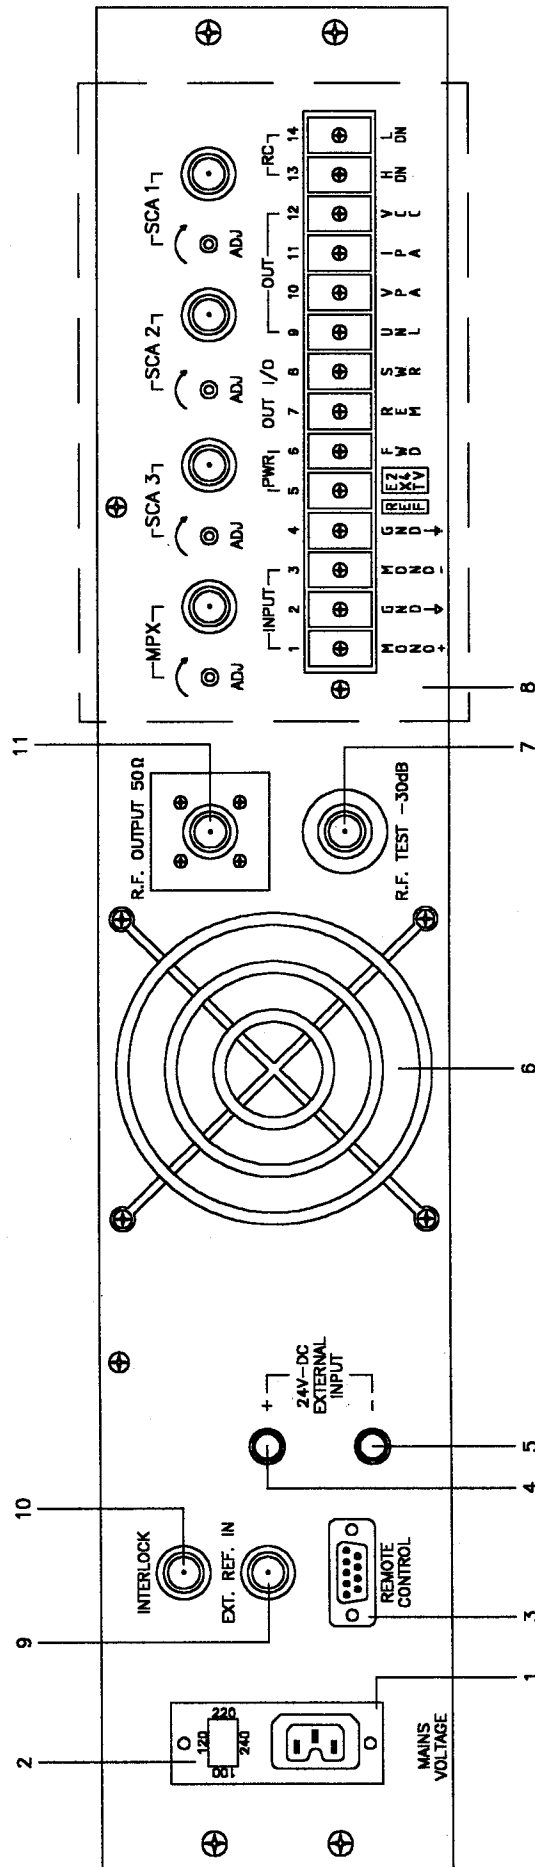

FIG. 2
REAR PANEL VIEW DESCRIPTION (Fig.2)
First of all select the correct supply voltage using the selector situated on the rear panel; use a screwdriver to raise the cover (2 Fig.2) on which are written the various voltages, rotate it until the arrow points ti the correct voltage and re-insert it.
- 2) Connect a 30dB attenuator between the R.F. Output connector (5 Fig.2) and Power Meter (see SETUP 1 Fig.5).
- 3) Connect a switch, via cable, to the INTERLOCK connector (10 Fig.2) on the rear panel so that the switch is able to short the central conductor to its screen.
- 5) Connect power to the unit via the VDE socket (1 Fig.2).